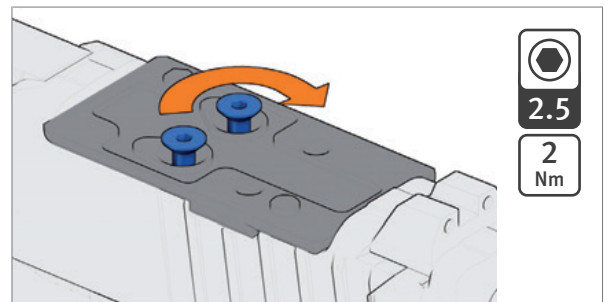

Fig. 34: Tighten screws
5. Tighten screws until the torque is reached (Fig. 34).